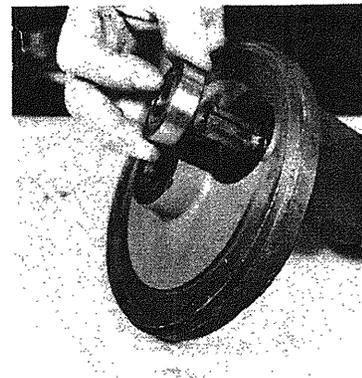

Fig. 2-8
- D. Lift the upper bearing (Fig. 2-8) out of the planetary.